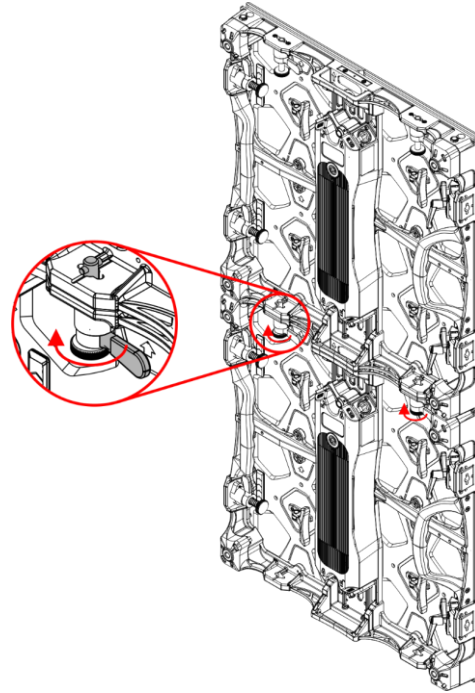

Fig. 43
- 05) Turn **lever (A)** of the left **locking mechanism (06)** clockwise to tighten the lower LED screen to the upper LED screen, as shown in Fig. 43 and 44.
- 06) Repeat steps 2–5 for the right **locking mechanism (06)** on the bottom LED screen.